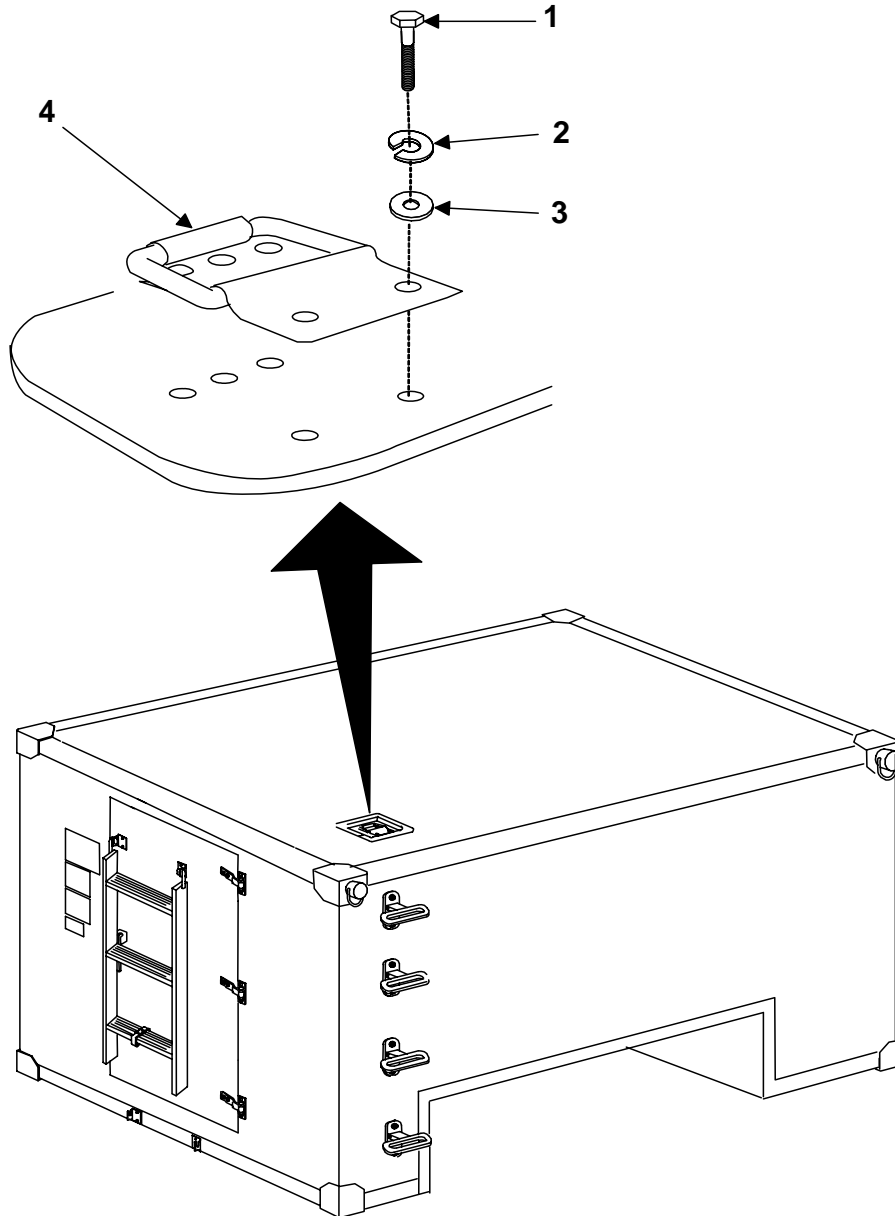

Figure 1. Handle, Bail.
2. Apply sealer to underside of handle, bail (figure 1, item 4).
3. Locate handle, bail (figure 1, item 4) to shelter roof.
4. Secure handle, bail (figure 1, item 4) in place using four bolts (figure 1, item 1), new lock washers (figure 1, item 2), and flat washers (figure 1, item 3).